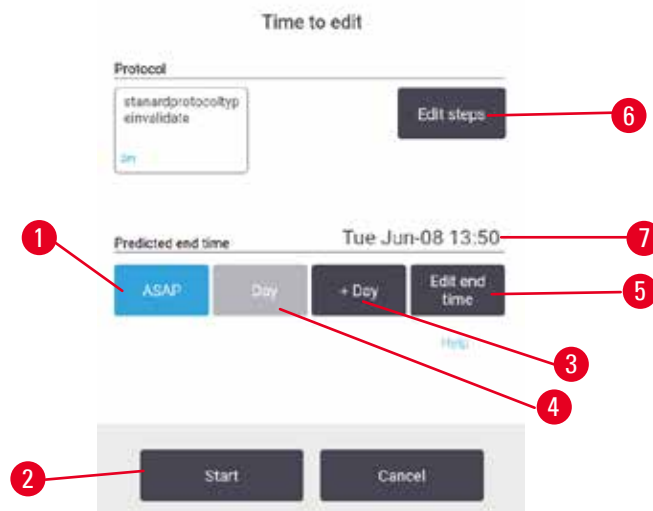
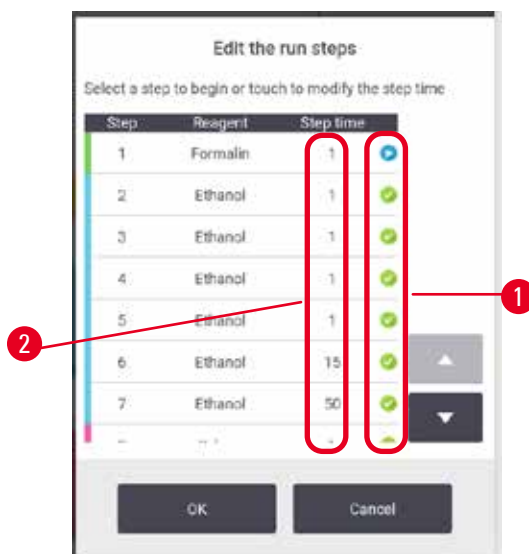

Fig. 53
Fig. 55
You schedule a protocol run in the **Time to edit** dialog box (→ Fig. 53). The dialog box opens after you have loaded the protocol, input baskets ID, and input the number of cassettes (→ p. 84 – 5.5.2 Changing the starting step for a single run).
1. Start a protocol run as normal from the **Status** screen and continue until the **Time to edit** dialog box (→ Fig. 53) opens. Tap **Edit steps** (→ Fig. 53-6) to open the **Edit the run steps** dialog box (→ Fig. 55).